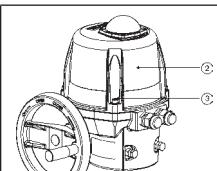

Fig. 13: Removing hood
- Remove hood 2 by loosening the four fastening screws 3 (see "Fig. 13").